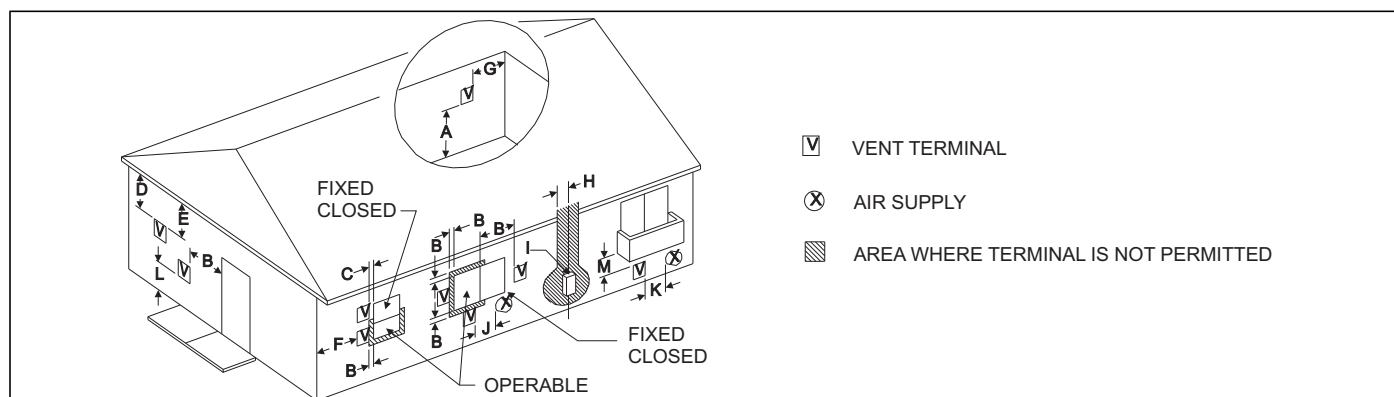
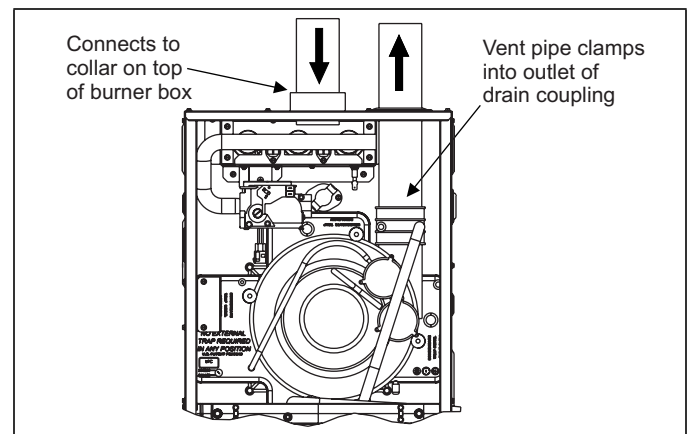

FIGURE 22: Home Layout
FIGURE 29: Direct Vent Air Intake Connection and Vent Connection
The combustion air side of the single pipe configuration shown in Figures 22 & 31 is referred to in these instructions as ambient combustion air supply. Follow the instructions for ambient combustion air installations, paying particular attention to the section on air source from inside the building. The vent for a single pipe system must be installed as specified in the venting section of these instructions with both vents terminating as shown in Figures 25-26. Each furnace must have a separate vent pipe. Under NO circumstances can the two vent pipes be tied together.
2. **AMBIENT COMBUSTION AIR:** Combustion air is supplied from the area surrounding the furnace through openings in the furnace casing. The combustion air and the vent pipes are not terminated in the same atmospheric zone. Refer to Figure 22 for vent terminations. Refer to "Ambient Combustion Air Supply" for proper installation. Refer to Figure 29.